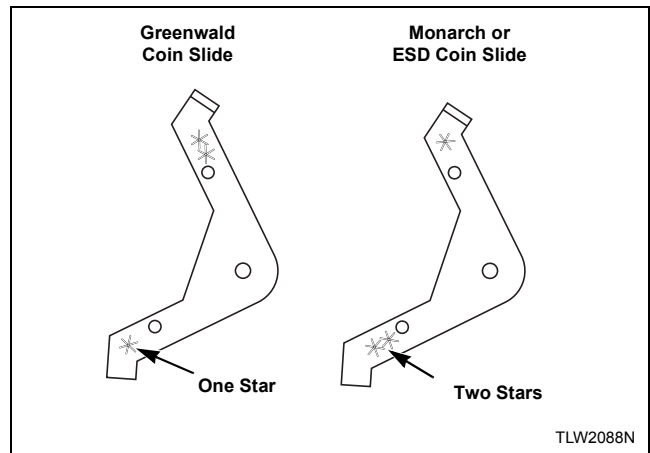

Figure 13
2. If installing a Greenwald coin slide, position extension lever (to be installed on extension bracket) with arm that has one star facing down. Refer to *Figure 13*.
3. If installing a Monarch or ESD coin slide, position lever with arm that has two stars facing down. Refer to *Figure 13*.